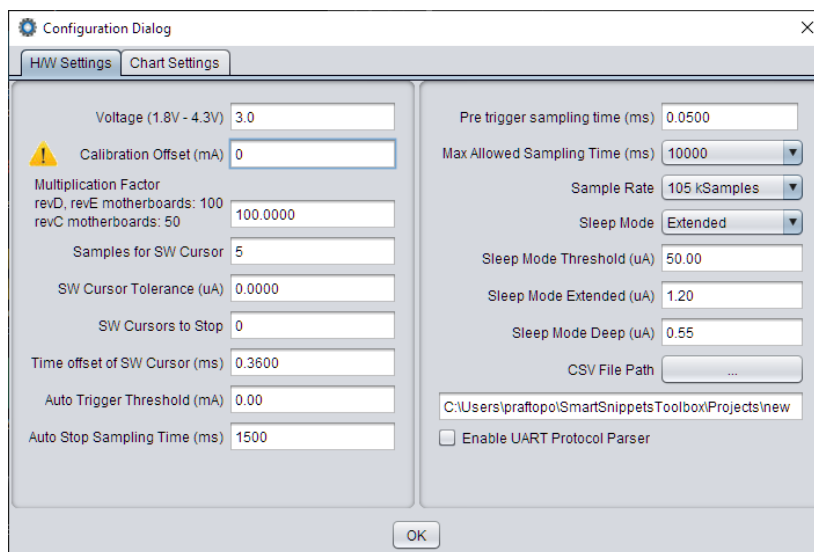

Figure 47: Setting Offset to Zero
2. In the main window of the Power Profiler, press “**Config**” and temporarily set the calibration offset to zero (Figure 47).